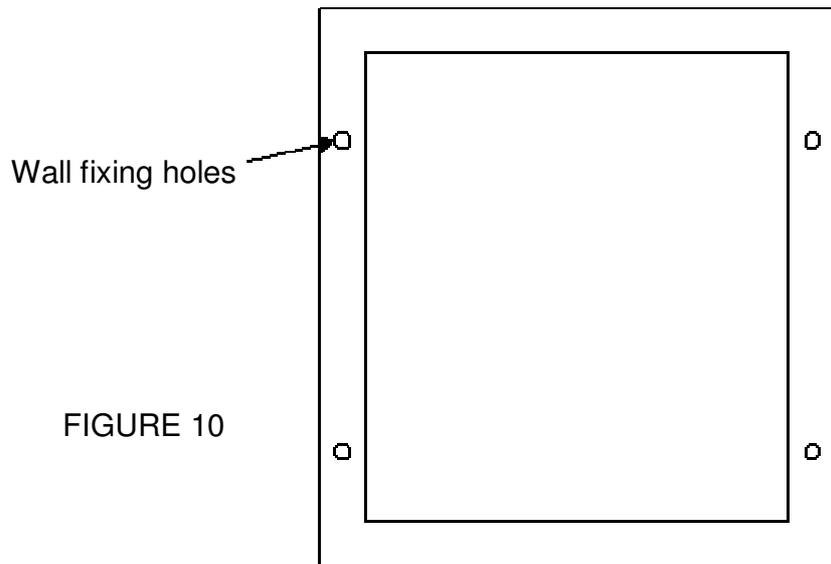

FIGURE 10
- 2 Place the spacer against the wall, ensuring it is correctly aligned with the flue duct and mark the position of the four fixing holes on the wall (See Figure 10) Drill and plug the wall at these positions. Check that the spacer is the correct way up and fix it to the wall. The spacer is the correct way up when the internal box section with two holes is at the bottom.